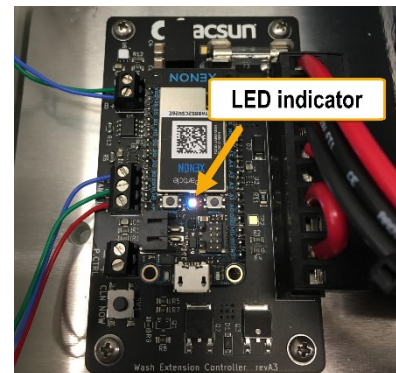

Figure 10-8: LED indicator on the WEC PCB
4. Verify that the LED (Figure 10-8) activity on the WEC PCB has the following order: